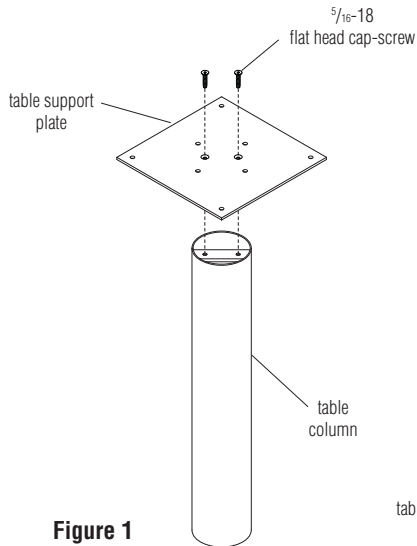

Figure 1
1. Carefully remove contents from packaging and view Figures 1 & 2 to familiarize yourself with the table base parts. If the table support plate was shipped attached to the Athens base assembly, unbolt the two before beginning assembly.
2. Position the table support plate as illustrated over the table column. Make sure the tapered, counter-sunk holes in the plate are facing up for the screw heads to nest into. Attach the plate to the column using two $\frac{5}{16}$ -18 flat head cap-screws provided. Using a $\frac{3}{16}$ hex driver, tighten screws to between 20 and 25 foot pounds of force (Figure 1).